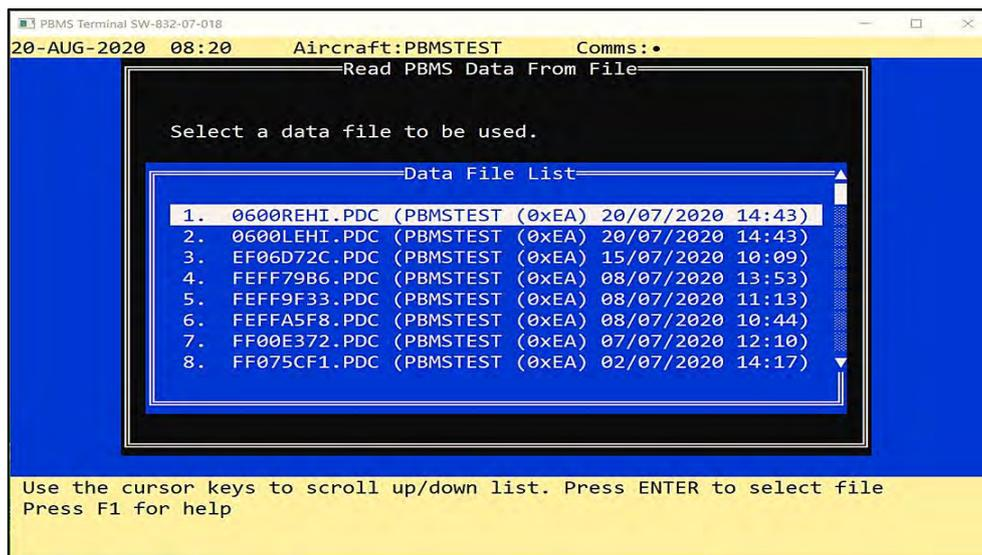

Figure 4-1 Data Files
- (2) When you select Read PBMS Data from File a list of the files for that MSN will be shown (Ref Fig 4-1) with the most current on the top of the list.
- (3) The PBMS Terminal will show the Data files available for the Aircraft Serial Number Entered in the Log files Details Screen. (Ref Fig 4-1).
- (4) Select the required data file using the cursor keys and press <Enter>.